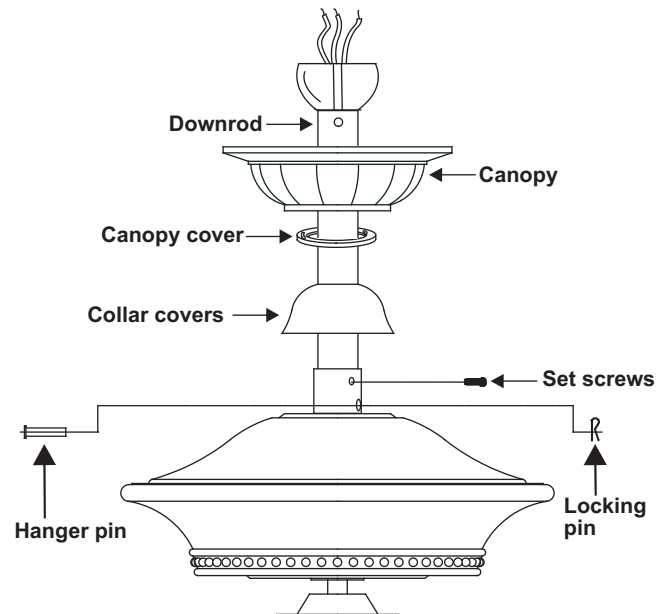

Figure 7
Step 6. Route wires exiting from the top of the fan motor through the collar cover, canopy cover and canopy, then through the ball / downrod. (Fig. 7)
Step 7. Align the holes at the bottom of the downrod with the holes in the collar on top of the motor housing (Fig.7). Carefully insert the hanger pin through the holes in the collar and downrod. Be careful not to jam the pin against the wiring inside the downrod. Insert the locking pin through the hole near the end of the hanger pin until it snaps into its locked position, as noted in the circle inset of Fig. 7.
Step 8. Tighten two set screws on top of the fan motor firmly. (Fig. 7)